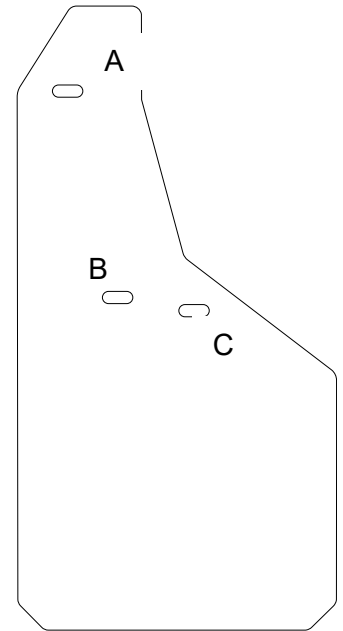

FIGURE 1 (FRONT)
1. Remove 2 Lower Factory screws on fender well lip and save for re-use. (FIGURE 1)